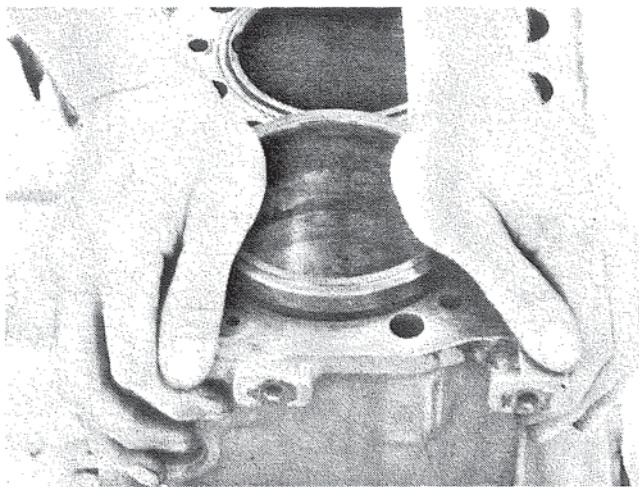

Figure 57. Inserting Liner.
D. Grasp liner with both hands and gently push into block. Figure 57.